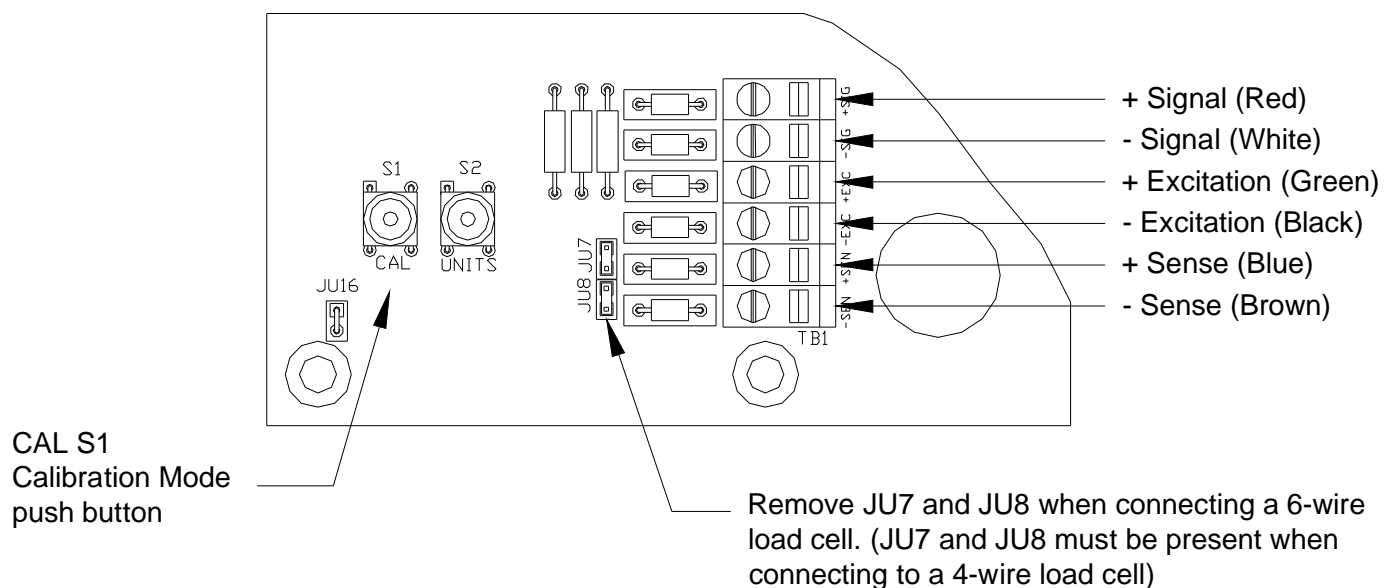
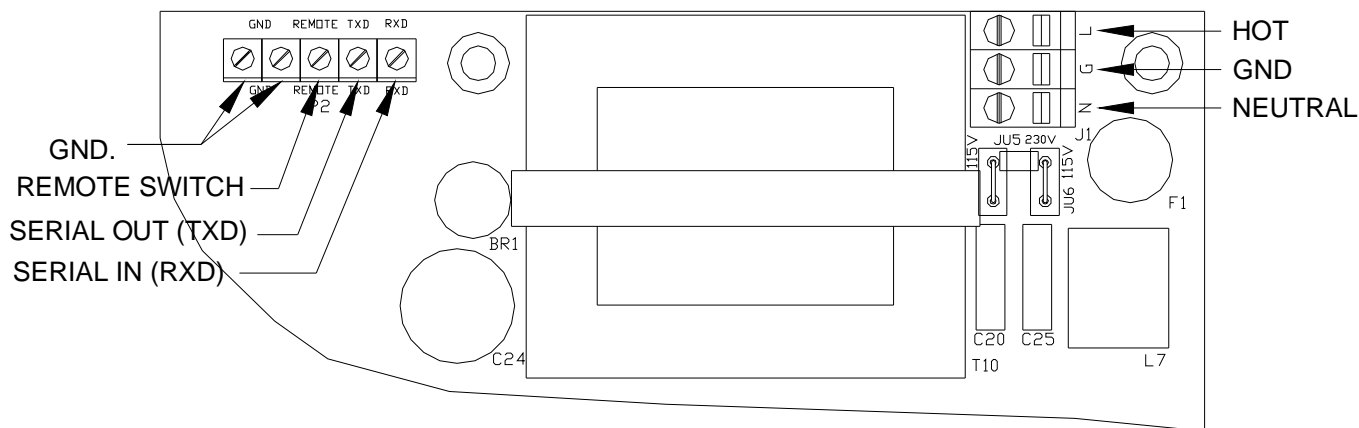

Fig. 6: Load Cell connections
Fig. 7: Serial, Remote SWITCH and power Connections
Load cell connections are made through a terminal block "TB1" located at the bottom center of the main board (see Fig. 6). The power cord connects to a connector "J1" adjacent to the transformer (see Fig. 7). These connections are accessible by removing the rear cover screws and laying the rear panel and front of scale on the work surface.
The Remote Switch and Serial Communications terminal is found on the top of the main board next to the transformer. These option connections are accessed by removing the rear cover. Connections are made by inserting each lead of the option cable into P2 terminal block (see Fig. 7). Like the load cell cable and power cord, the option cables are passed through watertight fittings mounted on the back of the indicator.
- 3) The CAL switch S1** is a momentary push button located in the lower left corner of main PC. Board (see Fig. 6). To access the calibration switch remove the meter's back cover.
NOTE: If "Er nEg" appears on the display, the calibration span is in a negative range. Check polarity of load cell connection (see Fig. 6) and repeat Calibration.
Scale must be in Legal for Trade Switch mode ("oP" = "44S"). Apply power to the Scale. Then momentarily press the **CAL switch S1** located in the lower left corner of main PC. Board (see Fig. 6). The calibration switch can be accessed by removing the meter's back cover. **Note:** Parameter and Calibration audit counters will be hidden when set in this mode. **Warning:** do not press CAL switch while powering up scale, this will cause the scale to reset all parameter settings.